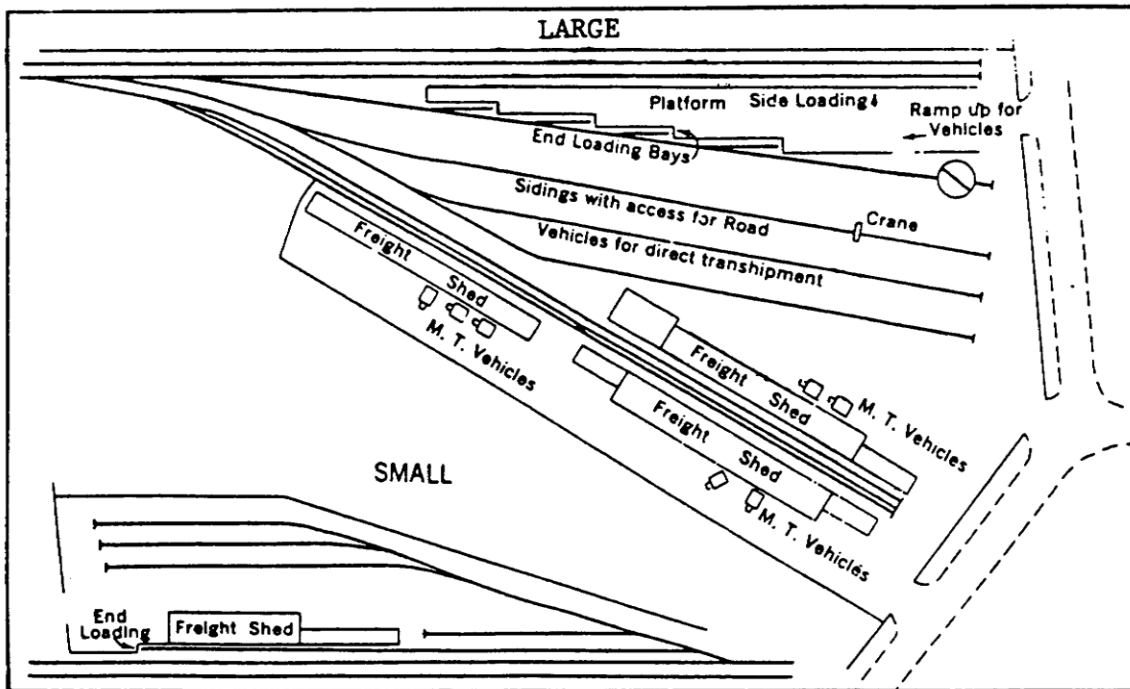

Figure 1-9. Simplified Diagram of a Large and Small Freight Station.
c. Other distinctive features of freight terminals are small stacks of freight; end-loading platforms; cold storage warehouses; storage tanks; and special provisions, such as cranes, for handling large or bulky freight (Figure 1-9).